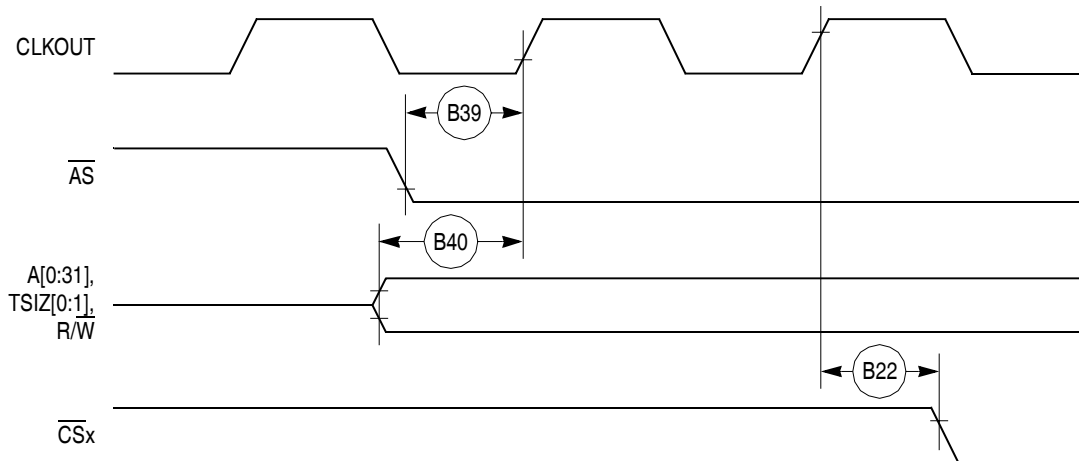

Figure 23. Asynchronous External Master Memory Access Timing (GPCM Controlled—ACS = 00)
- 9 The \overline{AS} signal is considered asynchronous to CLKOUT. The timing B39 is specified in order to allow the behavior specified in Figure 23.
Figure 23 shows the timing for the asynchronous external master memory access controlled by the GPCM.